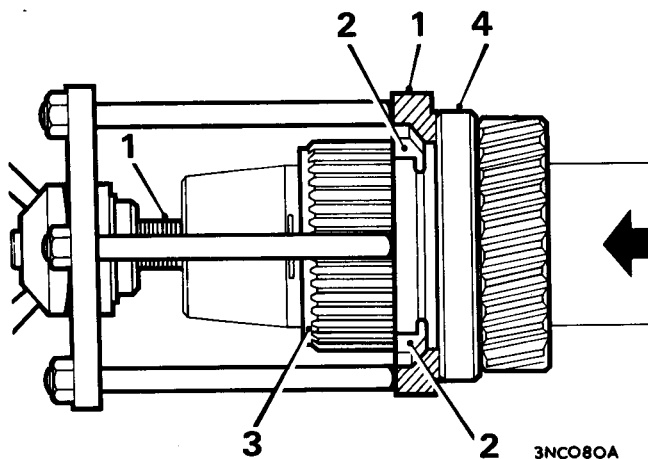

Fig. A.27
4. Screw the centre bolt of tool 18G 1068B securely into the crankshaft, Fig. A.27.
6. Pull the body of tool 18G 1068B over the centre bolt until the groove in the primary gear is visible inside the tool body, Fig. A.27.
7. Fit the two half collets of the tool into the groove in the gear, Fig. A.27.
8. Turn the winged nut anti-clockwise to withdraw the primary gear and oil seal clear of the housing, Fig. A.27.